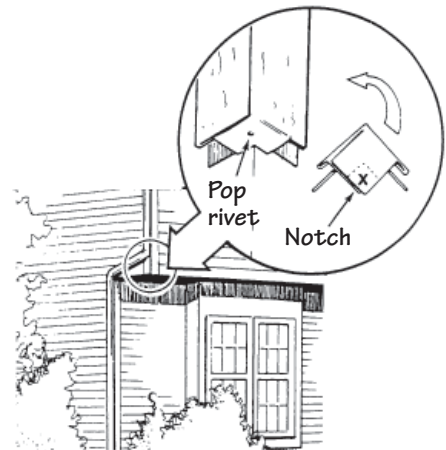

Figure 80.
- Drill a 1/8" (3.2mm) hole in the center, through both layers of vinyl, and install a pop rivet to hold them in place. Cut a notch in both layers to allow clearance for the corner (Fig. 80).